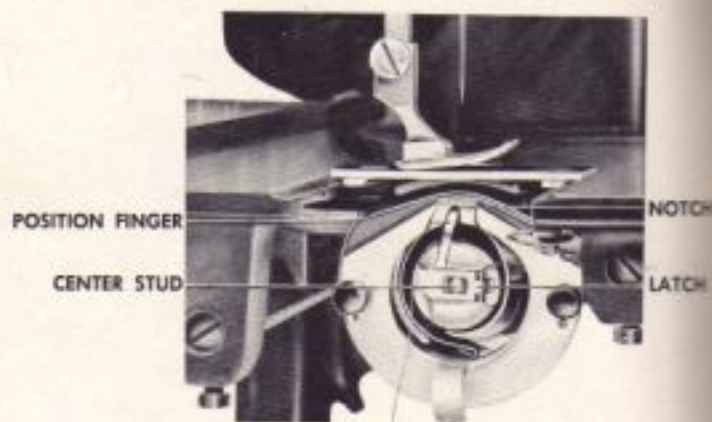

Fig. 18
e. With thumb and forefinger of left hand, take bobbin case (into which the full bobbin has been inserted) by the latch and place it on the center stud of the hook (shuttle). The position finger of the bobbin case must be opposite the notch on top of the race plate, as shown in Fig. 18.